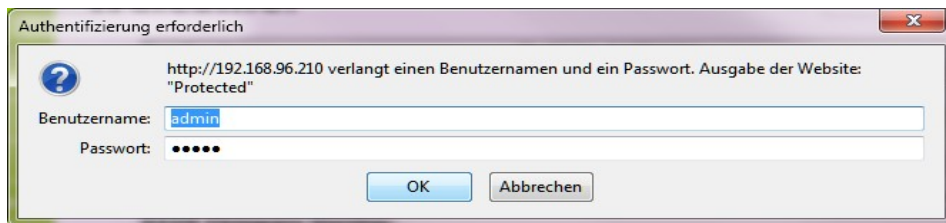

Figure 6: Login IP-EFOY-GATEWAY website
5. Choose menu item **"IP"** on the left of the website and enter the default login and password combination (see Figure 6 - Default user name: **"admin"** and default password: **"00000"**)